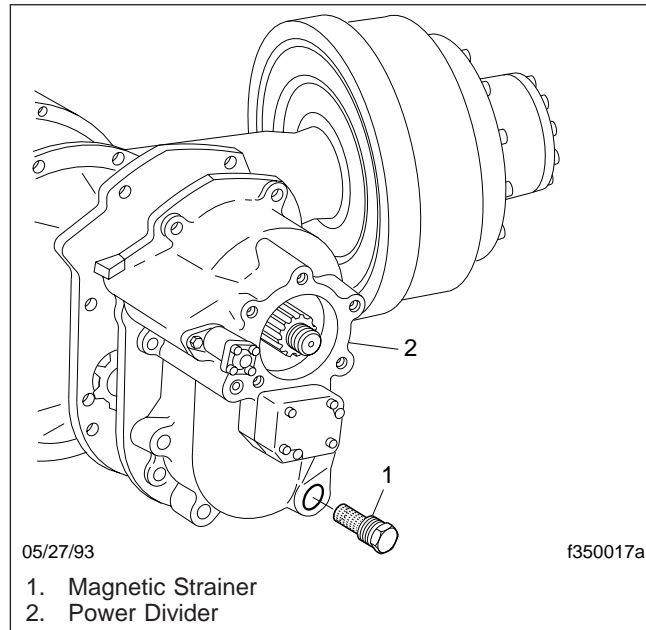

Fig. 8, Dana Spicer Dual-Drive-Axle Magnetic Strainer
pump on the front of the power divider cover, that must be removed and cleaned at each axle oil change. All rear axle assemblies are fitted with magnetic drain and fill plugs. See **Fig. 8**.
- 8.1 Using recommended lubricant, fill the axle through the oil fill hole or standpipe opening. Lubricant should be level with the bottom of the oil fill hole (see Fig. 8) or top of the standpipe opening.